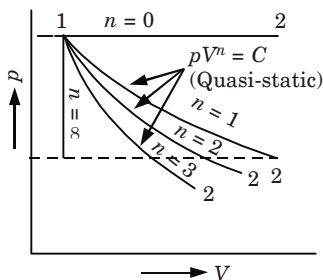

Fig. 1.19.4. Process in which $pV^n = \text{Constant}$.
4. Polytropic process ($pV^n = C$), where n is a constant (Fig. 1.19.4).